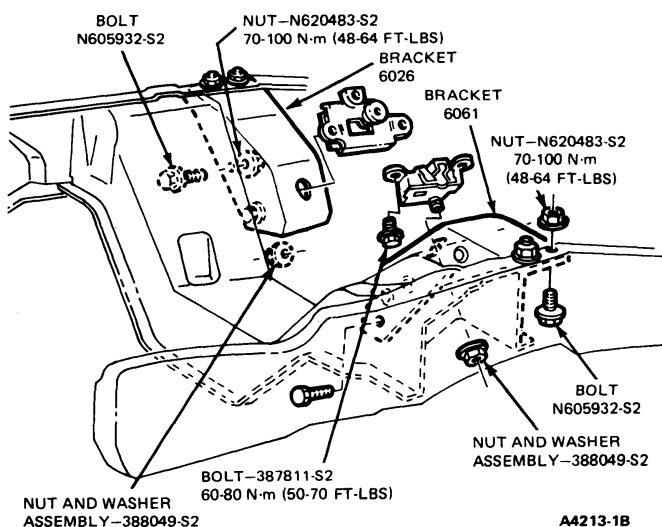

FIG. 8 Front Supports and Insulators—F-100—F-350 and Bronco
The front supports (Figs. 8 and 9) are located on each side of the cylinder block. The procedures given apply to either a right or left installation.
2. Remove the nut and washer attaching the support insulator to the chassis bracket (Fig. 8).
1. Position the support insulator to the cylinder block and install the attaching bolts and lockwashers loosely (Fig. 8).